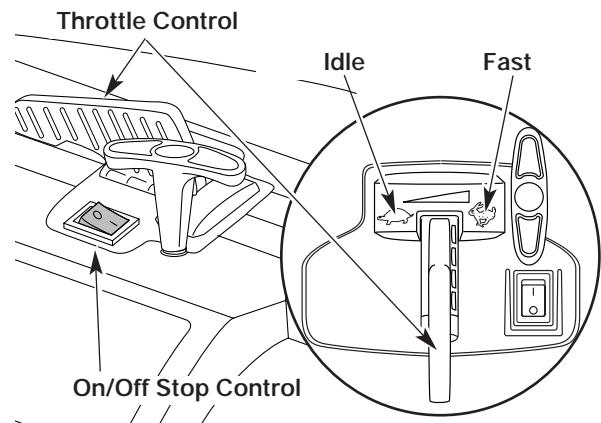
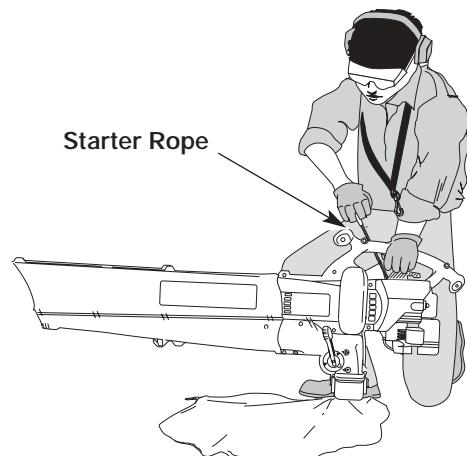

Fig. 9
Fig. 11
WARNING: Avoid accidental starting. Make sure you are in the starting position when pulling the starter rope (Fig. 11). To avoid serious injury, the operator and unit must be in a stable position while starting.
4. Place the unit in the starting position (Fig. 11). Move the throttle control to the idle position (Idle) (Fig. 9).